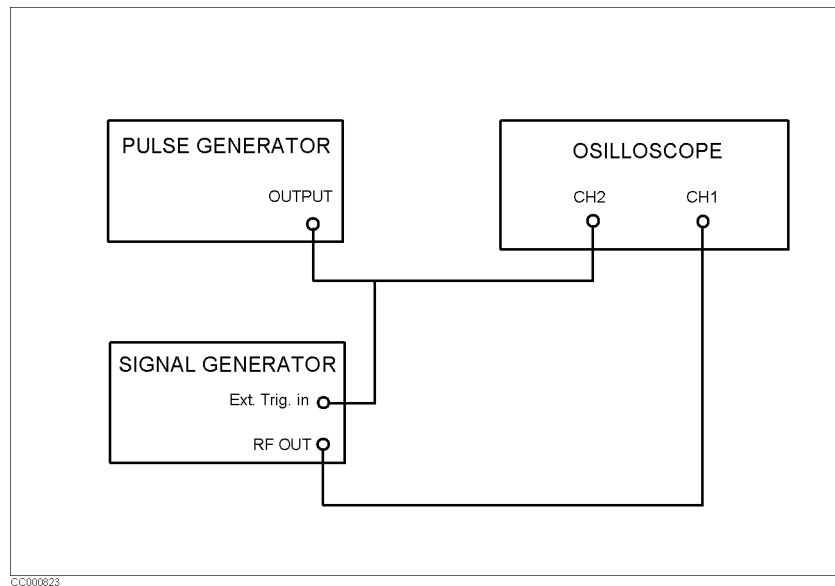

Figure 8-22. Time Domain Measurement Configuration
1. Connect the target signal and the trigger signal to the input port of an oscilloscope (see Figure 8-22).